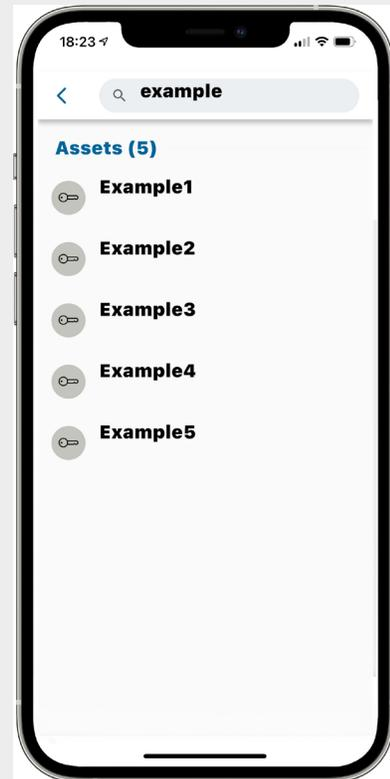

Fig. 81 – Search for an imported asset
-  You can do this by entering the asset name/stock number in the **search bar**, as shown in Fig. 81.